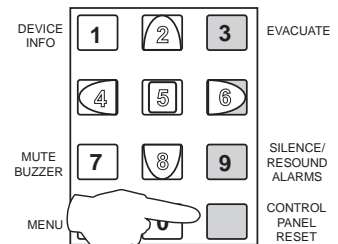

fig. 3
5. When fully satisfied that there is no fire, return to the control panel and press the RESET button, (fig 3). The panel display should return to normal and only the green SUPPLY PRESENT lamp should be lit on the control panel.